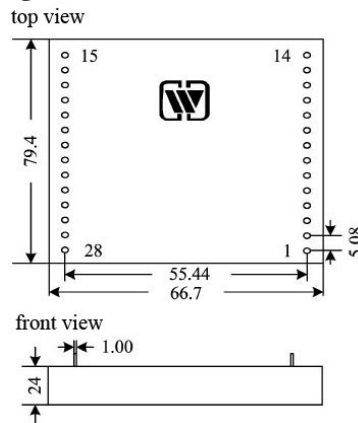

Fig. 7 Outside view and dimensions of package
9. Package specifications (unit: mm) (Fig. 7)